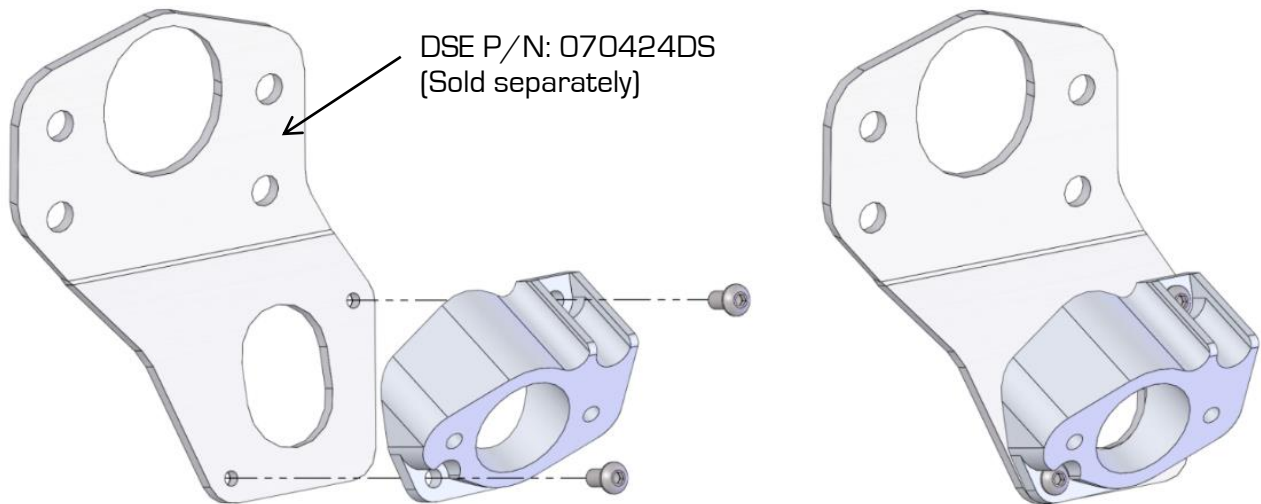

Figure 1 - Install Clutch Master Cylinder Adapter
1. Tap the two holes in P/N: 070424DS or P/N: 070430DS bracket with a 1/4"-20 thread tap. Install the adapter to the bracket using the provided 1/4"-20 x 1/2" L button head socket cap screws using a medium strength thread locker (Loctite 242 or equivalent) on the threads (Figure 1). Torque the screws to 120 in-lbs.